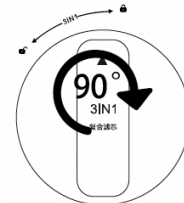

Figure 5
3. Gently press the filter element and rotate it 90° clockwise, ensure the triangle icon on top of filter element point at lock icon (Figure 5).